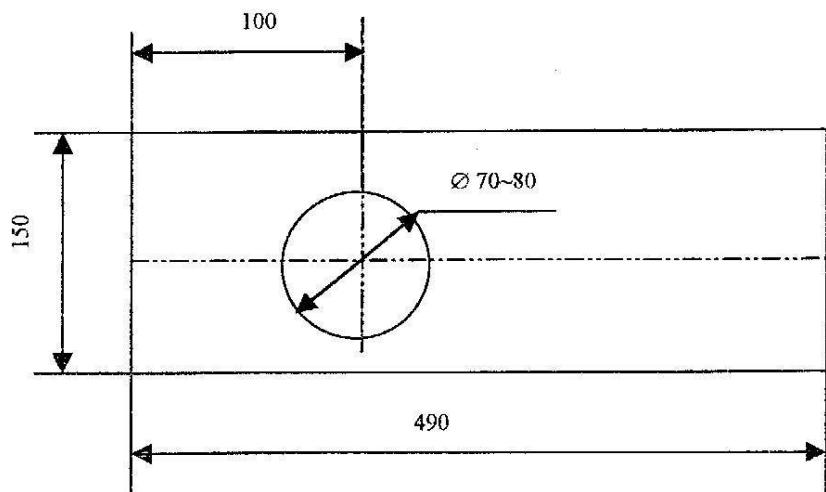

Figure 1
4.2.5 After unpacking, the tester shall be placed on a stable bench with levelness deviation less than 1 mm/m. A hole shall be drilled at an appropriate location on the bench (see figure 1) to enable the lifting screw to operate properly.